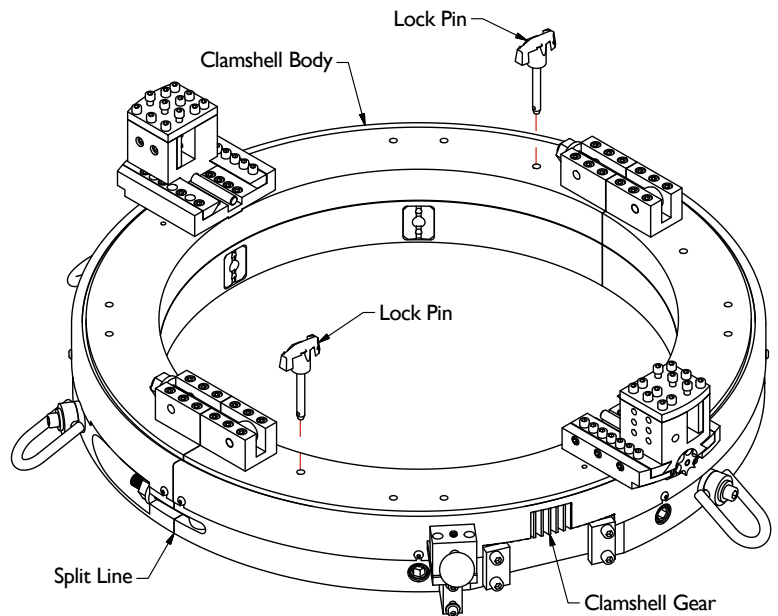

Figure 1 - Install Lock Pins
1. Rotate the clamshell gear to align the gear and housing split lines. Lock the gear and housing in place by inserting two lock pins through the holes on the clamshell face. If the gear holes do not line up with the housing holes, rotate the gear 180°. See Figure 1.